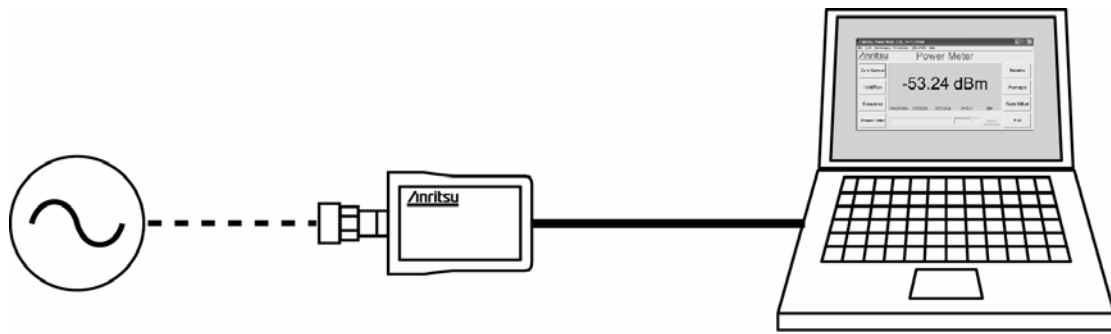

Figure 3-19. Measurement Setup
1. Connect the sensor to a computer as shown in Figure 3-19.